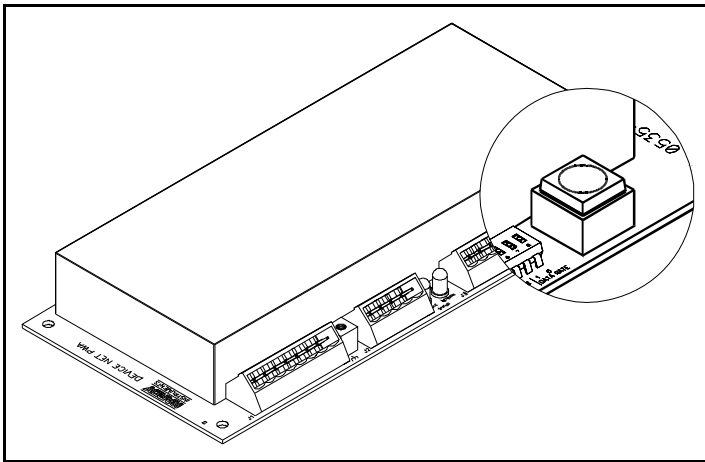

FIG. 6-1 THE RED BUTTON
- Step 2. Press the RED BUTTON on the weigh module printed circuit board and hold the button down until the Module Status LED goes off. (See Fig. 6-1)